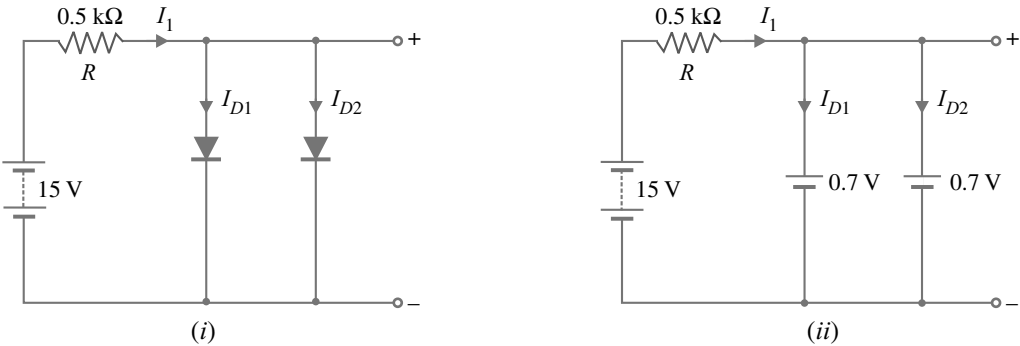

Fig. 4.20
**Example 4.18.** Determine current through each diode in the circuit shown in Fig. 4.20 (i) Use simplified model. Assume diodes to be similar.
**Solution.** The applied voltage forward biases each diode so that they conduct current in the same direction. Fig. 4.20 (ii) shows the equivalent circuit using simplified model. Referring to Fig. 4.20 (ii),